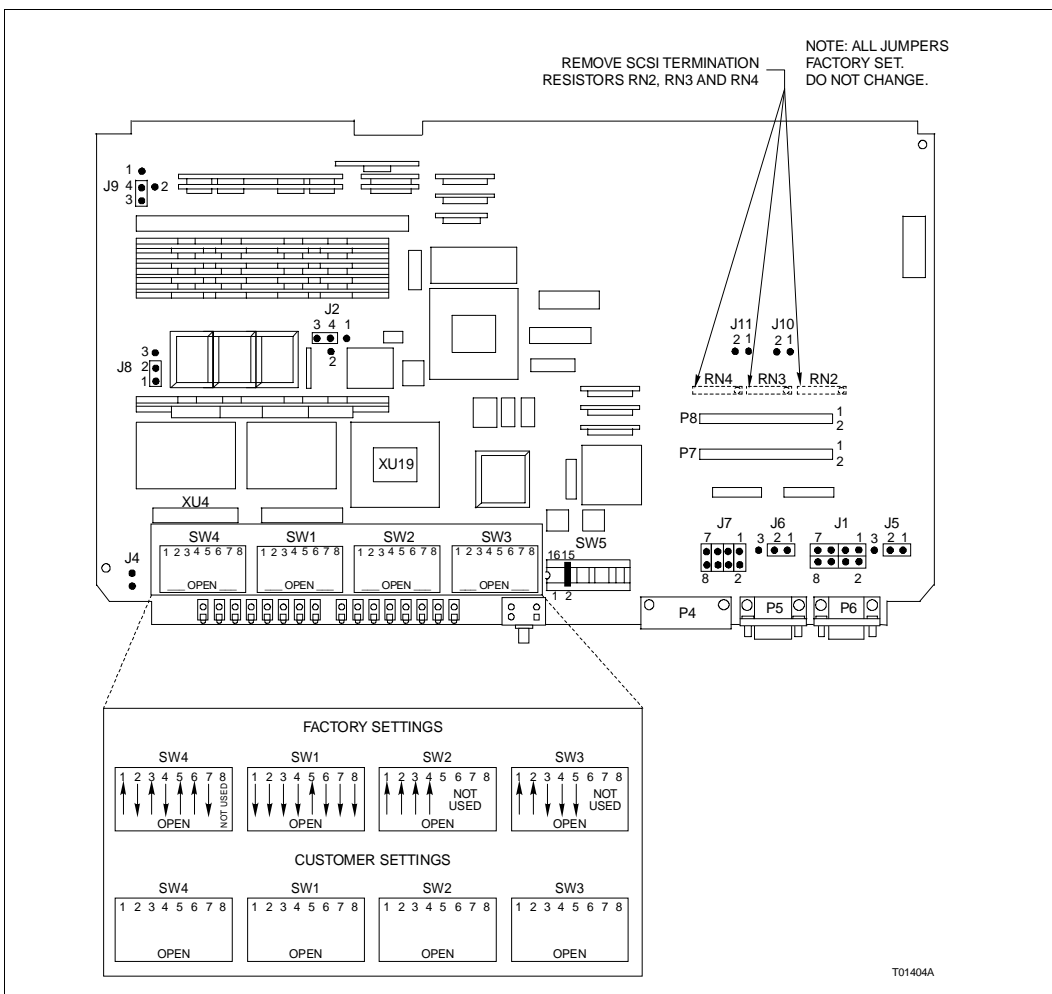

Figure PR32-3. IIMCP02 Module
- 6. Refer to Figure PR32-3 and Table PR32-1 and set the jumpers and switches as desired, filling in the customer settings in Figure PR32-3 and Table PR32-1.
1. The settings shown in Figure PR32-3 and the bold entries in Table PR32-1 indicate factory default settings.
2. The jumper settings shown in Figure PR32-3 are factory set and should not be changed; however, verify that they are in their correct positions.